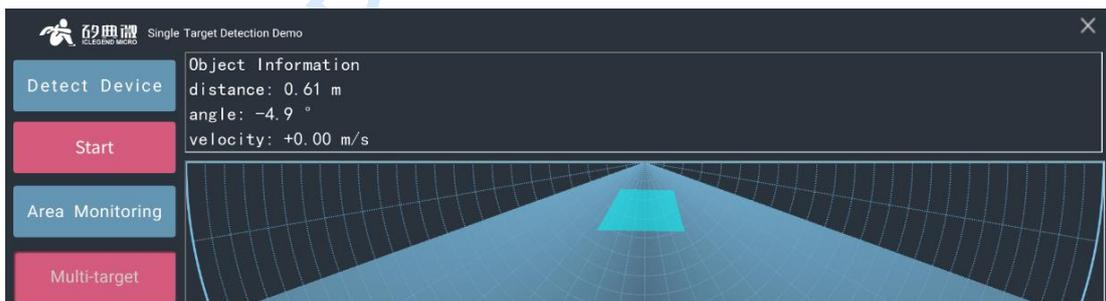
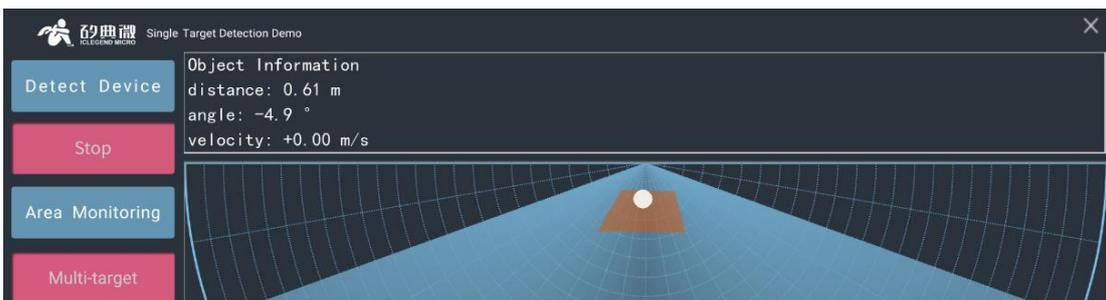
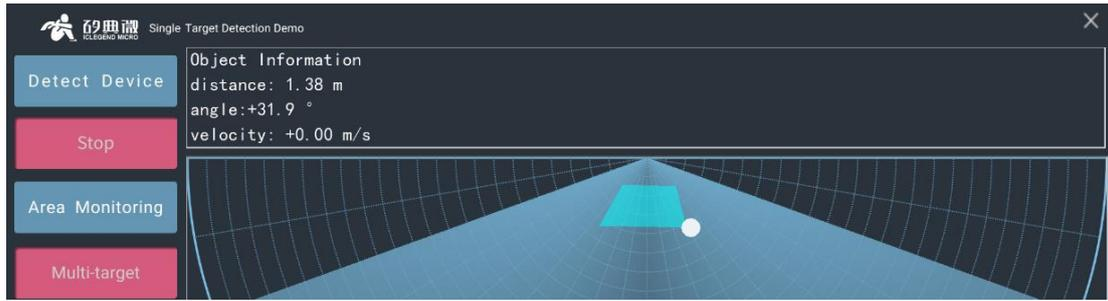

Figure 6-7 Example of a defined monitoring area
Figure 6-8 Target exists in monitoring area
Figure 6-9 No target in monitoring area
Step 3: Click the **Add Monitor Area** button to start defining a monitoring area, click in the evaluation board chart to define the vertexes of the desired monitoring area in clockwise or anti clockwise direction, right-click to finish the process, and the GUI will display the defined monitoring area, an example is shown in Figure 6-7; After setting the monitoring area, if a human target is detected in this area, the background color of this area changes immediately, as shown in Figure 6-8 and Figure 6-9.
Step 3: Click the **Replay/Stop** toggle button, select the directory that saves recorded detection data and click OK, the program starts displaying the detected data on the GUI, as shown in Figure 6-9;